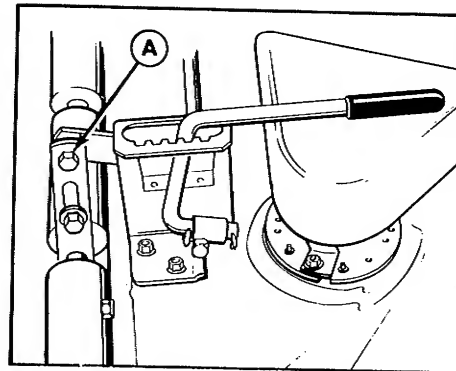

Figure 35. Shoulder Bolt
5. Loosen the shoulder bolt (A, figure 35) and raise or lower mower as necessary to level it. Retighten the shoulder bolt and torque to 40 ft. lbs.